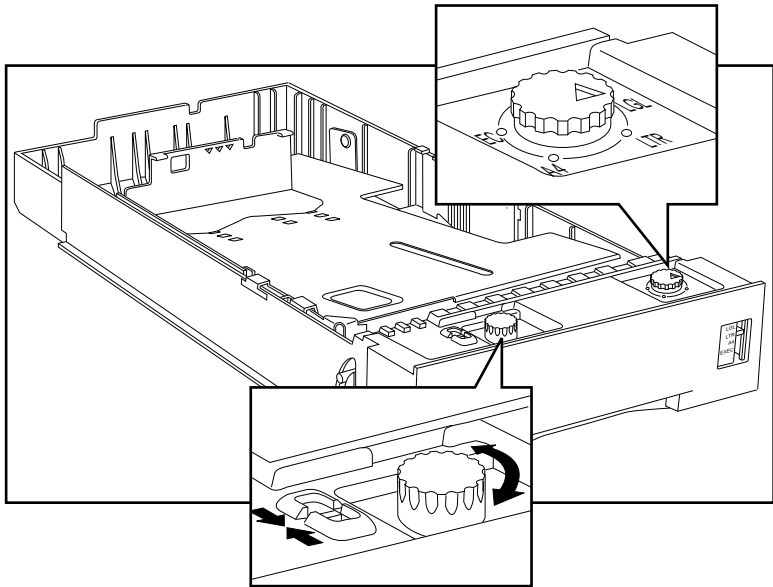

Fig. 9.6 Set the Paper Size and Paper Capacity Dials
7. Set the paper size dial to the size of the media loaded in the cassette (fig. 9.6). Then make sure the paper size indicator on the end of the cassette matches the setting.